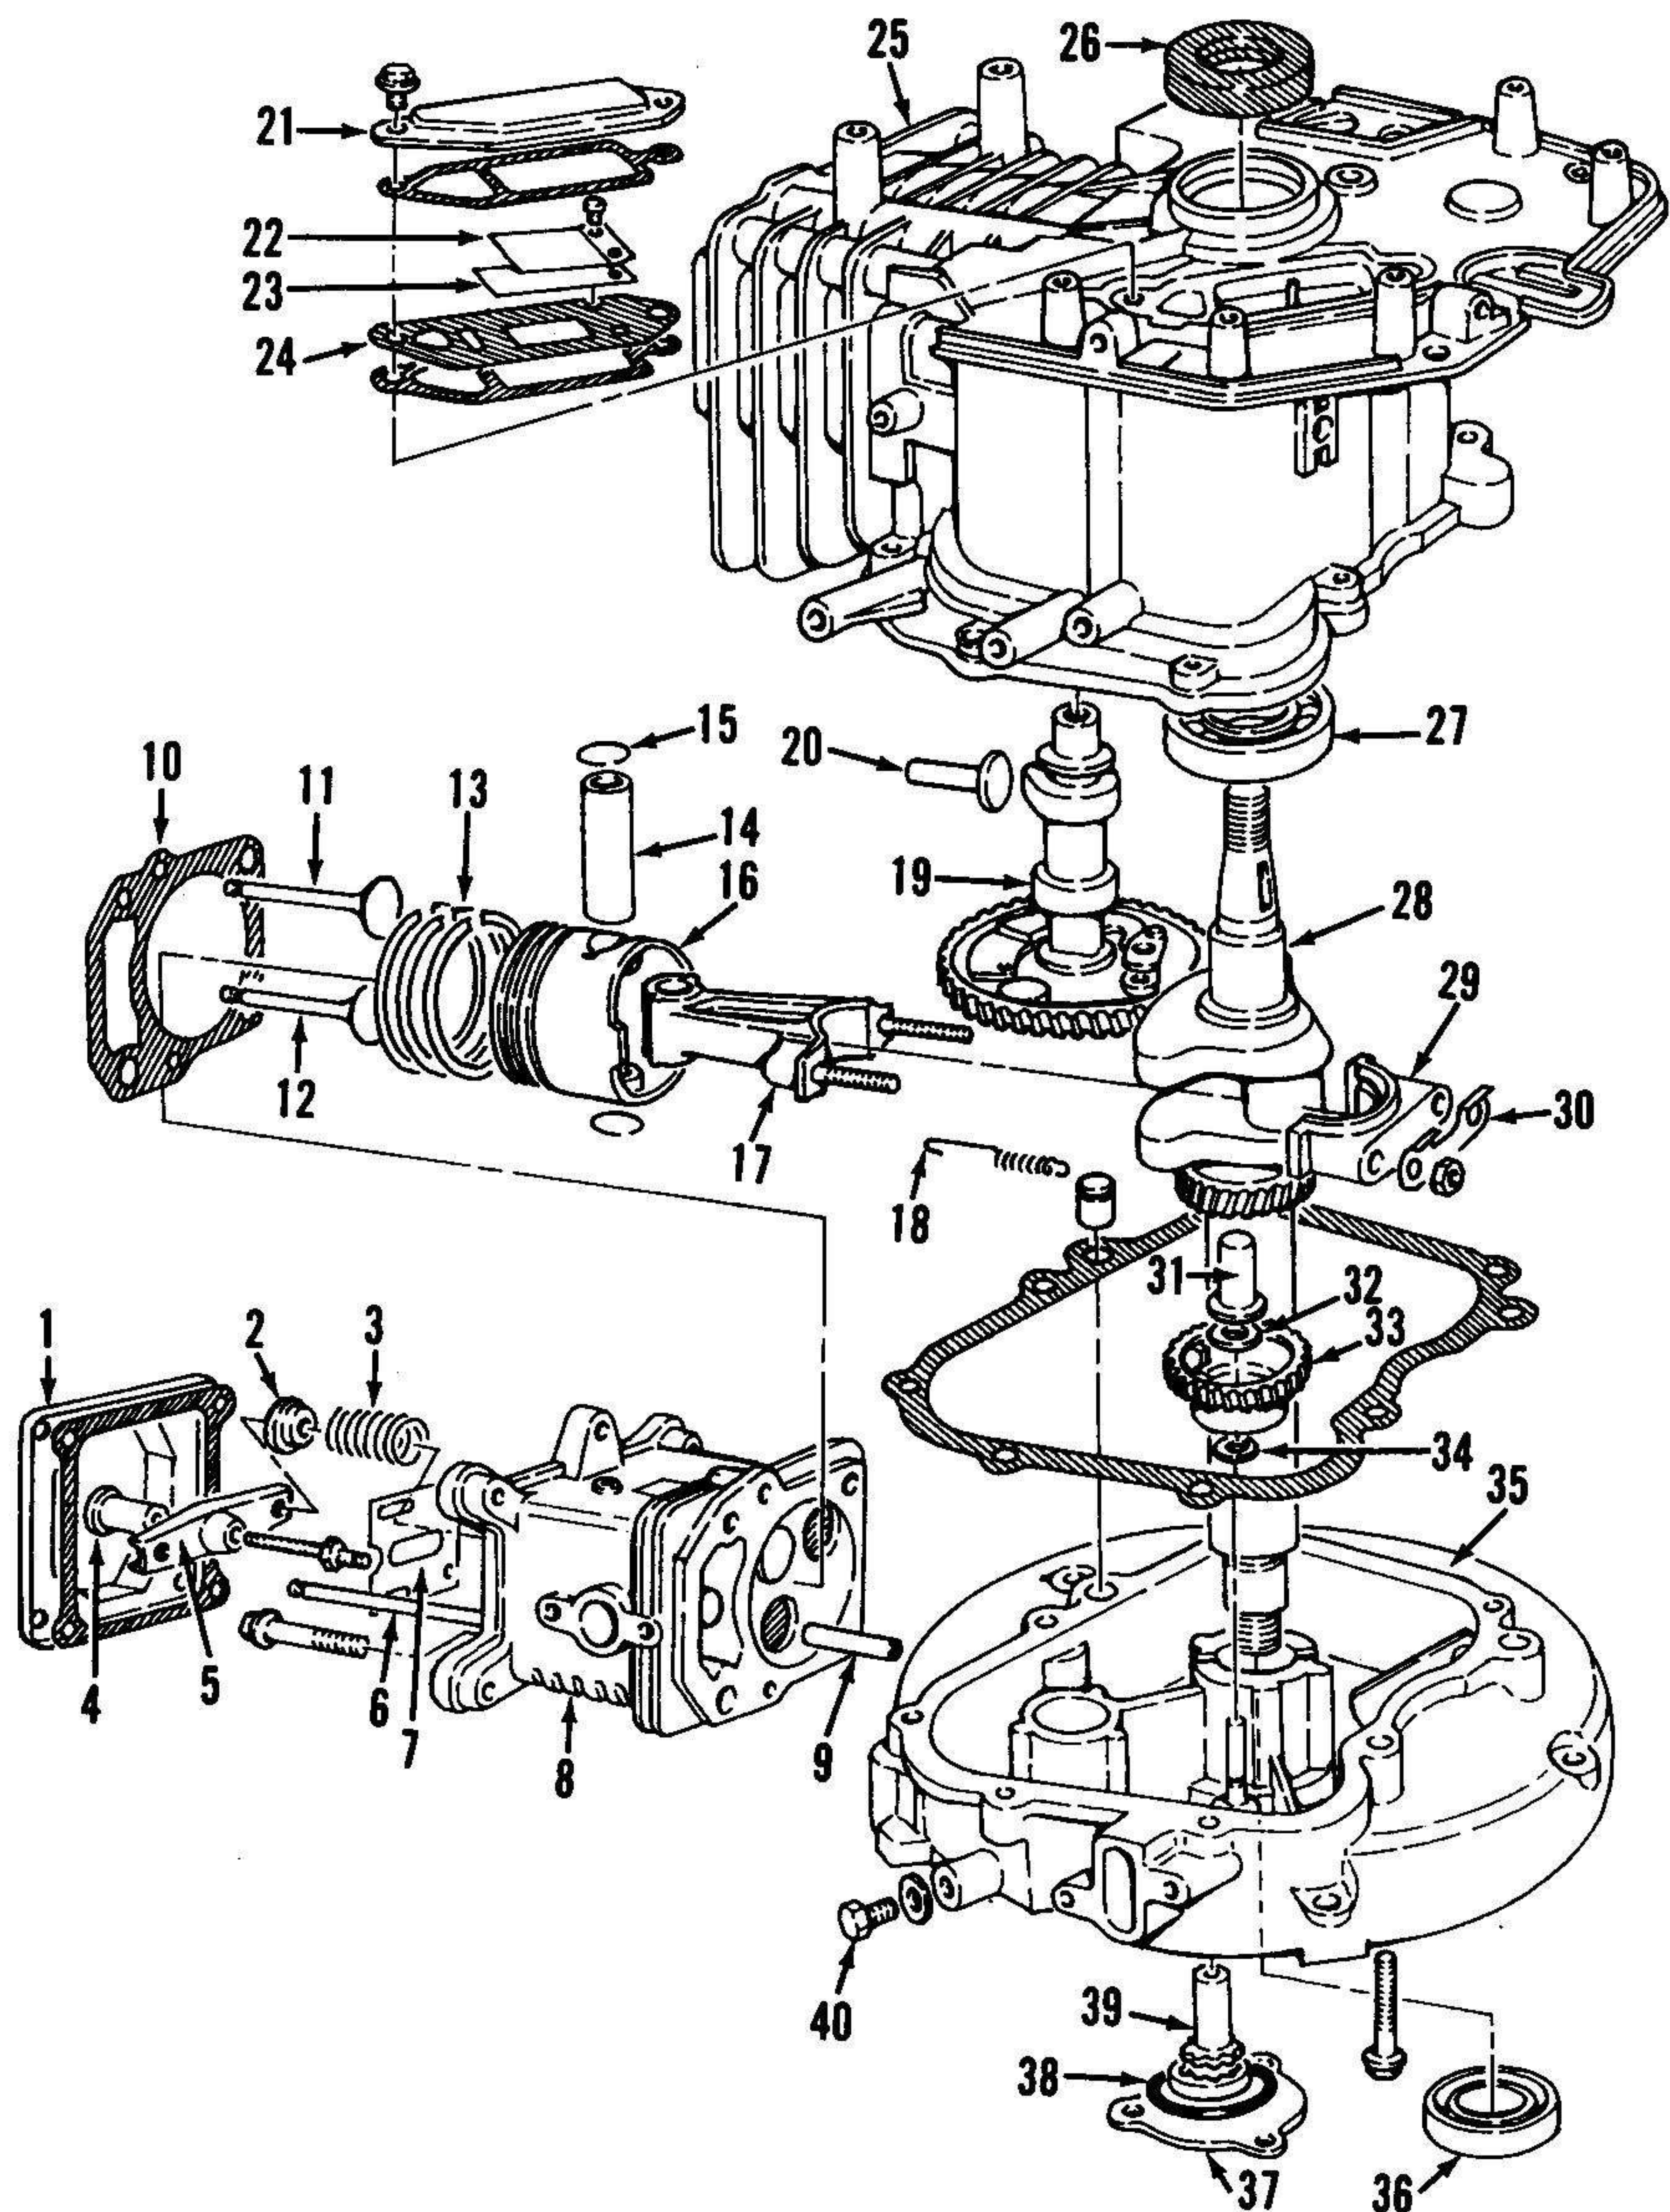

Fig. TO54—Exploded view of engine assembly.
**CYLINDER HEAD.** To remove the cylinder head, first remove fuel tank, air cleaner, blower housing, carburetor, speed control bracket, muffler, and rocker arm cover. Loosen jam nuts, and remove rocker arm pivots (4—Fig. TO54), rocker arms (5) and push rods (6); mark all parts so they can be returned to original location. Unscrew cylinder head screws and remove cylinder head (8).
**VALVE SYSTEM.** To remove valves (11 and 12—Fig. TO54) from cylinder head, compress valve springs (3) by hand or with a suitable spring compressor tool and remove slotted retainers (2). The intake and exhaust valve springs and retainers are identical and interchangeable.
Valve guides (9—Fig. TO54) can be renewed using Toro valve guide driver 81-4880 or other suitable tool. Press or drive guide out towards rocker arm side of head. Use Toro reamer 81-4850 or other suitable reamer so valve guide bore diameter in head is 9.300-9.315 mm (0.3661-0.3667 in.). Press or drive guide in from rocker arm side of cylinder head so valve guide is 27.5 mm (1.08 in.) below head gasket surface of cylinder head. Ream guide with Toro reamer 81-4840 or other suitably sized reamer to obtain desired valve stem clearance. Valve guide finished inside diameter should be 5.500-5.512 mm (0.2165-0.2170 in.).
**CAMSHAFT.** To remove camshaft (19—Fig. TO54) proceed as follows: Remove engine as previously outlined. Drain oil from crankcase. Clean pto end of crankshaft and remove any burrs or rust. Remove rocker arm cover (1), rocker arms (5) and push rods (6); mark all parts so they can be returned to original position. Unscrew fasteners and remove oil pan (35). Rotate crankshaft so timing marks on crankshaft and camshaft gears are aligned (this
**CRANKSHAFT, MAIN BEARINGS AND OIL SEALS.** The crankshaft is supported at flywheel end by a ball bearing (27—Fig. TO54) located in the crankcase. The crankshaft may be removed after removing piston and connecting rod as previously outlined.
Remove engine from equipment for access to oil pump cover (37—Fig. TO54). Remove cover and extract pump rotors (39). Mark rotors so they can be reinstalled in their original position. Renew any components which are damaged or excessively worn.